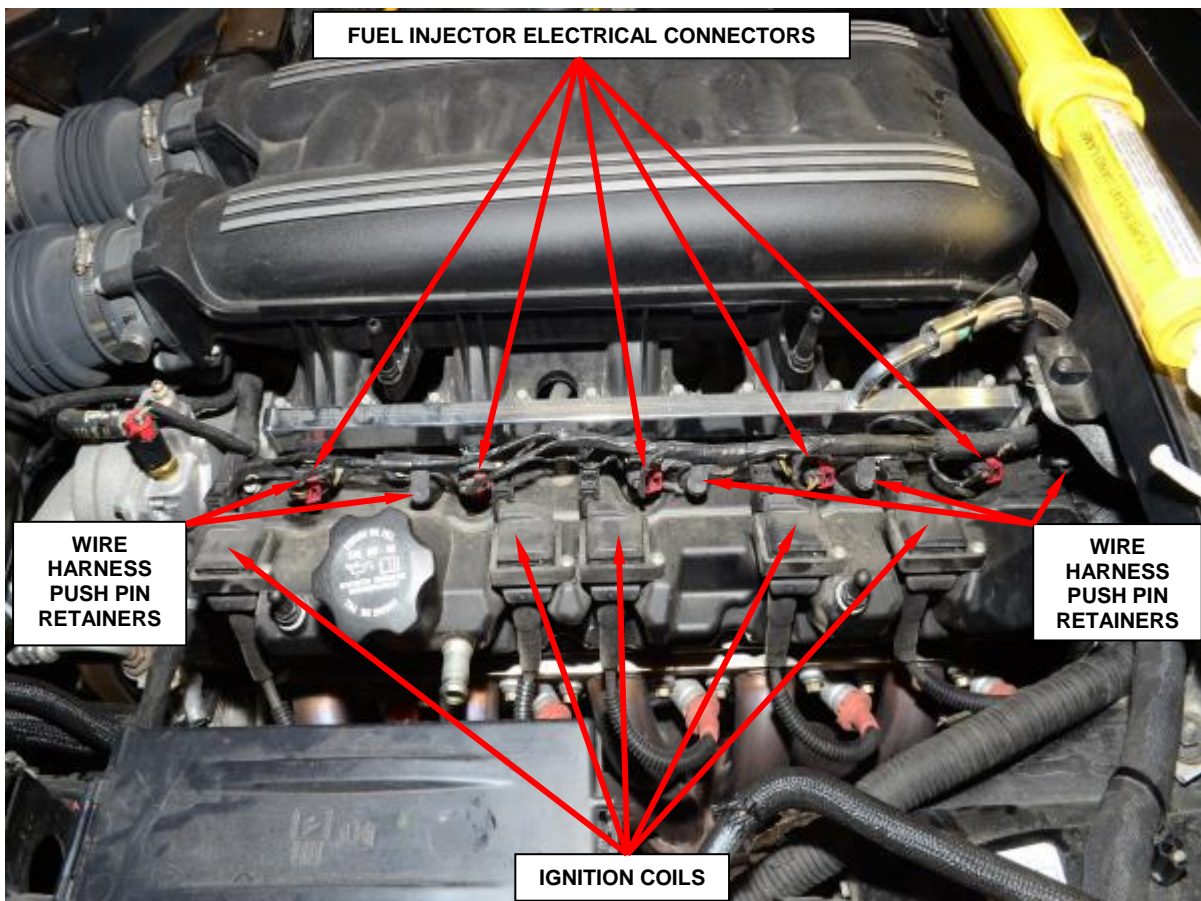

Figure 5 - Electrical Connectors
8. Disconnect the five fuel injector electrical connectors (Figure 5).
9. Remove the five ignition coils from the cylinder head cover and position to the side (Figure 5).
10. Release the five wire harness push pin retainers and position the wire harness to the side (Figure 5).
14. Install the five ignition coils to the cylinder head cover and tighten the screws securely (Figure 5).
15. Position the wire harness to the cylinder head cover and install the five wire harness push pin retainers (Figure 5).
16. Connect the five fuel injector electrical connectors (Figure 5).
17. Connect the five ignition coil electrical connectors (Figure 5).